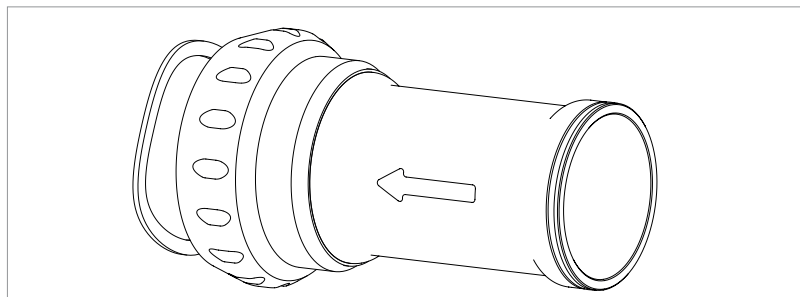

Fig.1
- Before fitting the cups in the bottom bracket, engage the hose, following the direction of the arrow, in one of the two cups (Fig. 1).